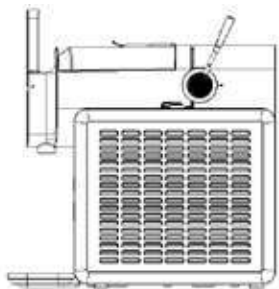

Fig. 3
- Figure 3: shows unlocked state.